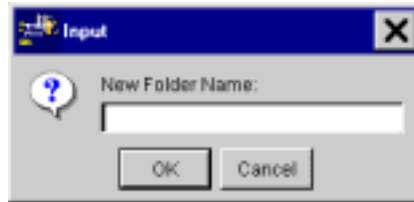

Figure 5.20 Input Window
1. On the ETEdit (main) window, on the File menu, click Create Folder. The Input window opens (Figure 5.20).